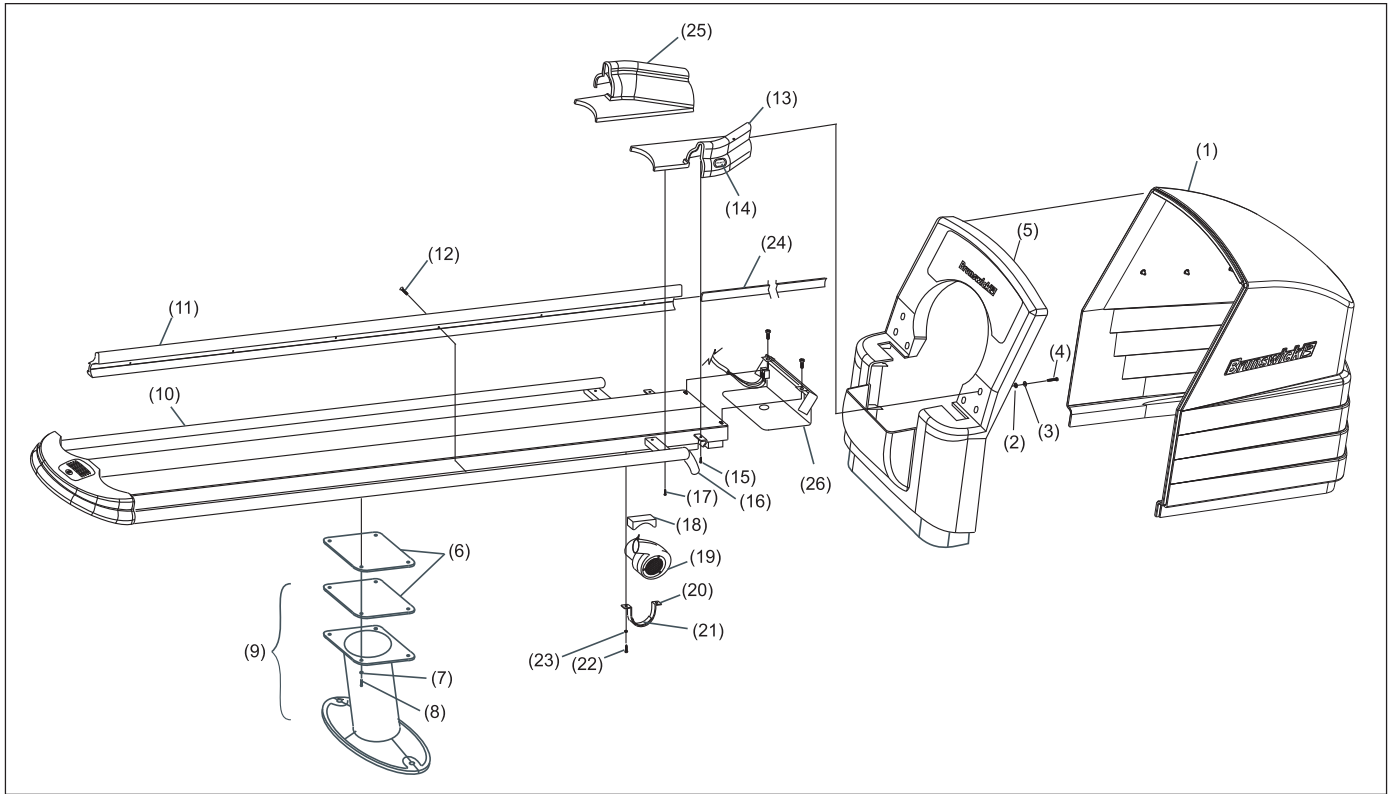

Figure 1. Ball Rack Assembly
1. Align the ball rack leg assembly and two spacers with the four weld nuts in the ball rack frame. Refer to *Figure 1*.
2. Secure ball rack leg to the ball frame (as shown in *Figure 1*) with the following hardware: